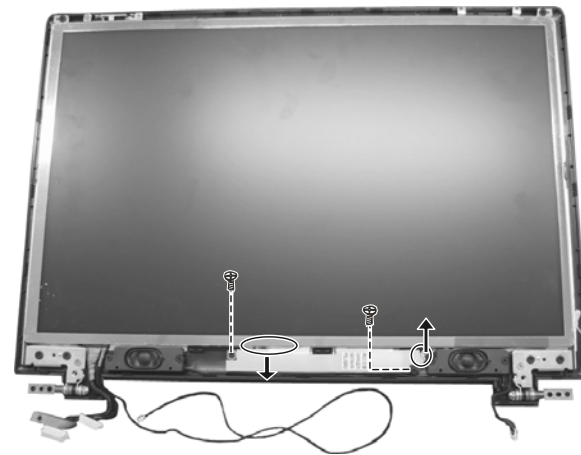

Figure 2-17 Remove the two screws and disconnect the two cables
4. Remove the two screws and disconnect the two cables to free the inverter board. (Figure 2-17)